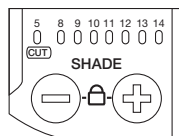

Fig. 11a ADF G5-01
- a. Seven (ADF G5-01) or eight (ADF G5-01VC) different shade settings are available, split into two groups, CUT 5 and 8-13 or 8-14, respectively. In order to see the current shade setting, quickly press and release the SHADE + or – button. The current shade number will blink. To change shade, press the + or – button repeatedly to move the flashing LED up or down to the desired shade. The ADF will cycle between SHADE 3 and the desired shade (Fig. 11a and 11b).